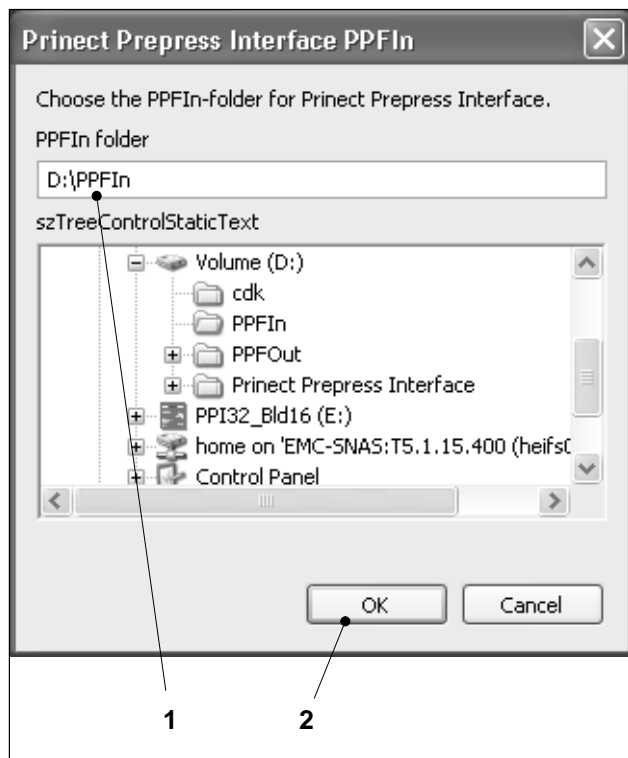

Fig. 11 Selecting the input directory
17. After a short time the *PPFin*. input window appears. Select the input directory for the PPF files here. The directory "D:\PPFin" is preset as standard (Fig. 11/1).
18. Click on OK to confirm your entry (Fig. 11/2). The installation continues.